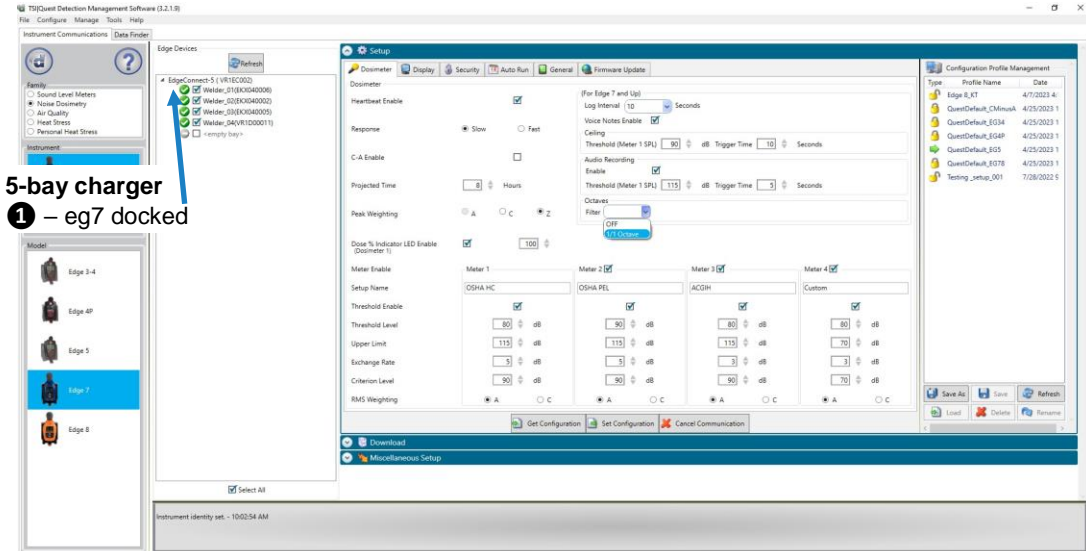

Figure 1-3: Parameter setup screen for EG7
2. **Bay chargers:** If you are using a 5-bay charger, you may have various models (EG7 and EG8) docked at once using the EdgeConnect5 as indicated in Figure 1-3.